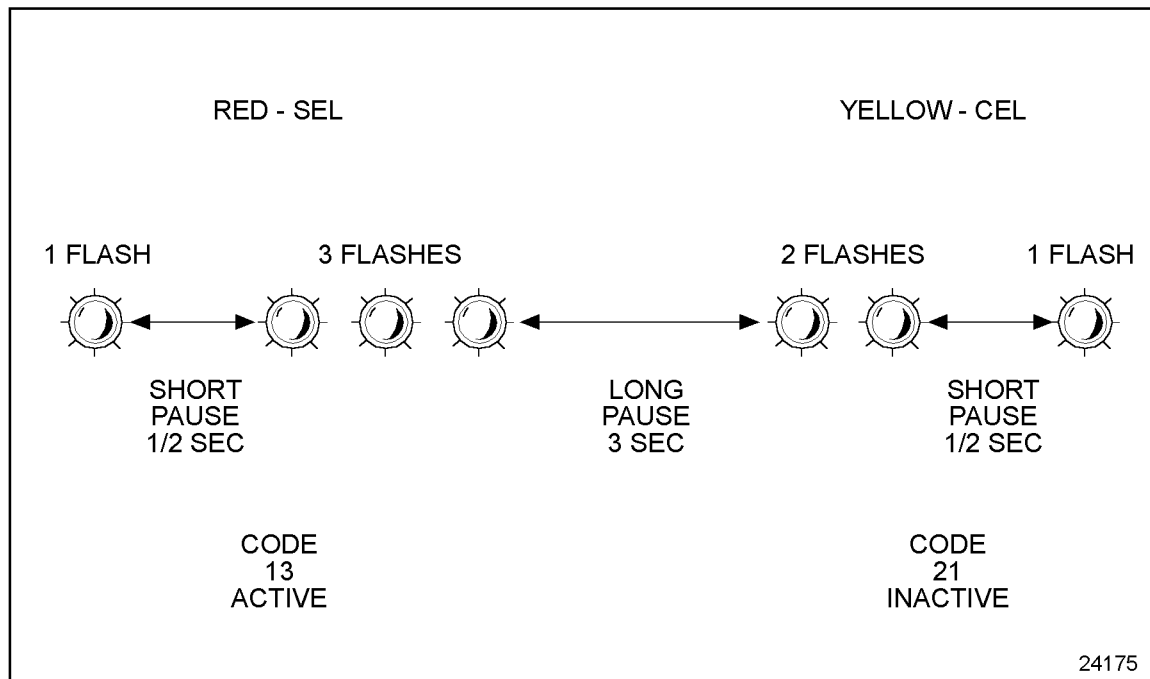

Figure 5-1 Flash Code Method
- [a] As an example, observe Code 13 (active) and Code 21 (inactive) flashing out on the CEL and SEL; see Figure 5-1.